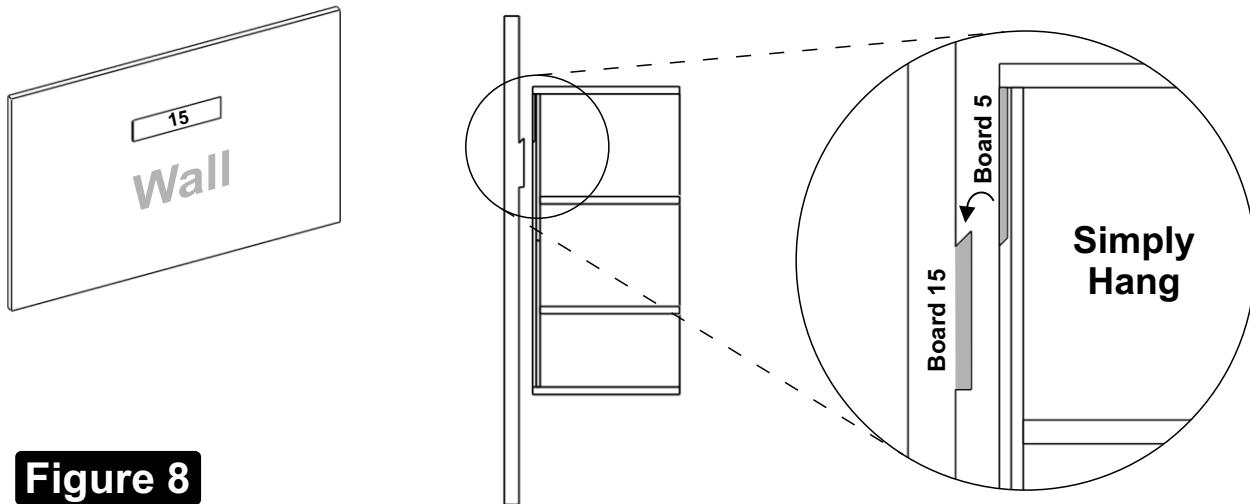

Figure 8
Step 8 : Affix Board 15 on wall. Hang the Cabinet assembly onto the Board 15 as shown in Figure 8.